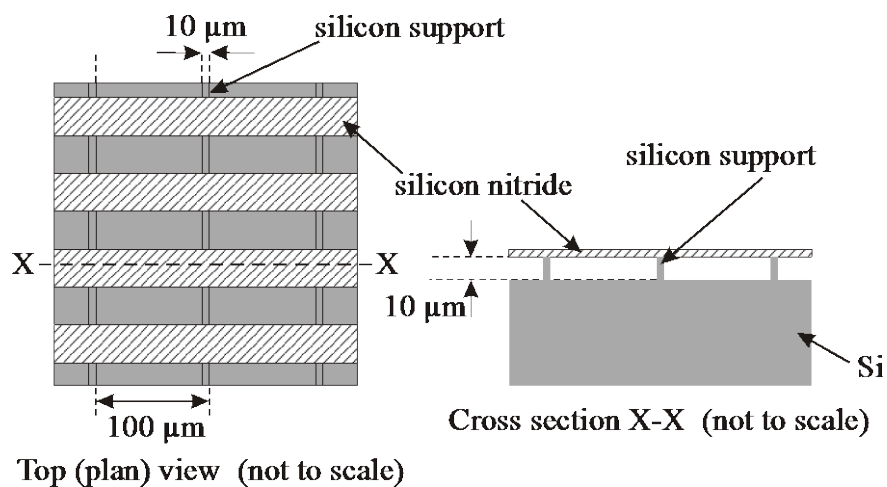

Fig. 3
(c) It is desired to produce a series of parallel beams of silicon nitride that are 50 μm wide and 500 nm thick at a very well-defined 10 μm above the surface of a silicon wafer. The beams are at a centre-to-centre pitch of 100 μm . The height of the beams above the silicon substrate are defined by a set of silicon supports that run perpendicular to the silicon nitride beams, as shown in Fig. 3. The supports are 10 μm wide and at a centre-to-centre pitch of 100 μm . Describe a process flow for the fabrication of this structure starting from a bare Si (100) wafer. [50%]